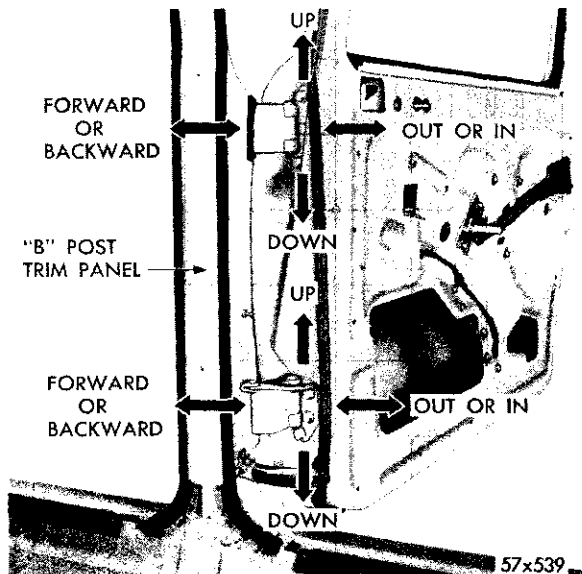

Fig. 20—Adjusting Door Hinges (Rear)
d. Striker Plate Adjustment (Fig. 20)
Loosen hinge attaching bolts at "B" pillar (Fig. 20). Move door as required to obtain proper fit with door opening. Tighten bolts securely. To move door toward rear of car; shims may be installed between hinge and pillar or between hinge and door.
8. REAR DOOR HINGE ADJUSTMENTS (Fig. 20)